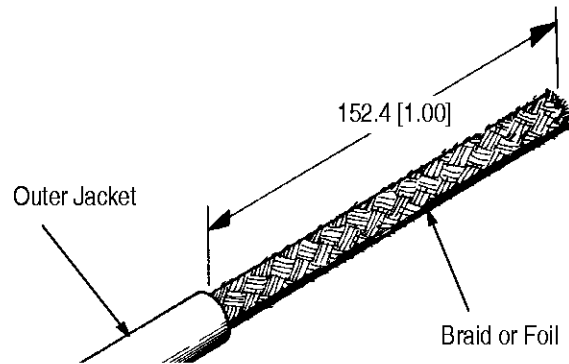

Figure 2
3.1. Cable Preparation (Figure 2)